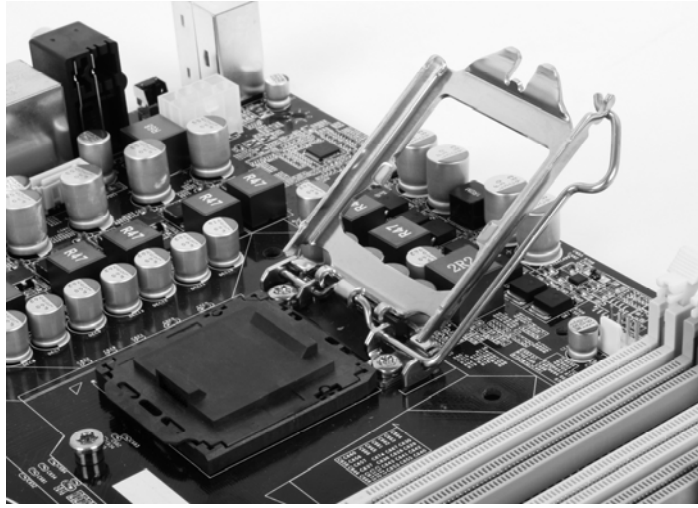

Fig 2
1.2. Pull up the lever at the side of socket to about 160 degrees angle, and then pull up the CPU metal shell to about 110 degrees with the socket (i.e. fully open), as shown in Fig .2